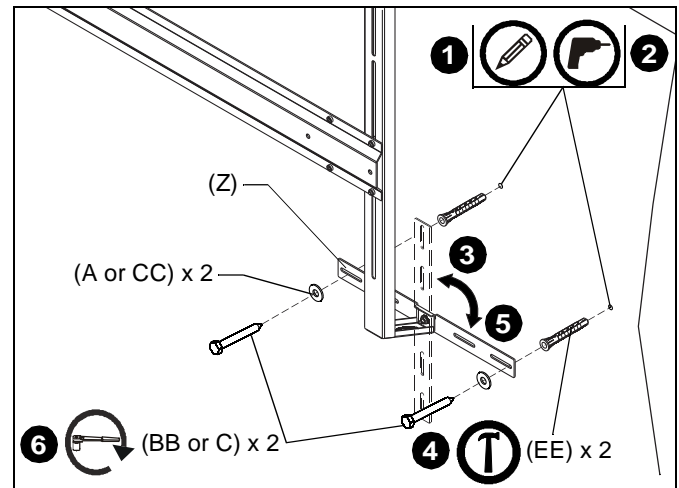

Figure 18
1. Mark the wall through the lower wall bracket (Z) on each upright assembly (U). (See Figure 18)
2. Drill one 5/16" x 2-3/4" pilot hole at each marking. (See Figure 18)
3. Loosen and rotate the lower wall bracket to allow installation of the UX8 x 50R anchors (EE). (See Figure 18)
4. Install one anchor (EE) into each pilot hole using a hammer. (See Figure 18)
6. Use two 1/4-20 x 2-1/2" lag bolts (BB or C) and two 1/4" flat washers (A or CC) to attach each lower wall bracket (Z) to anchors in wall. (See Figure 18)